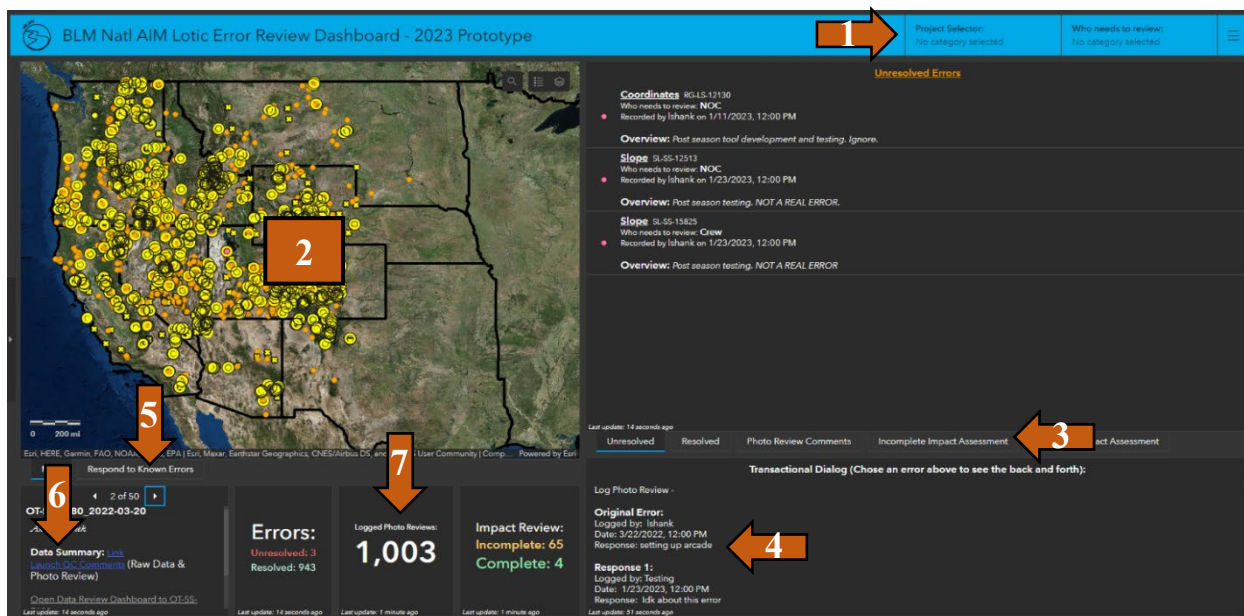

Figure 4. Screenshot of Error Review Dashboard
- Prior to reviewing data from the crew's first trip, watch the QC webinar which covers detailed instructions on how to use the Error Review Dashboard. Only general instructions are provided below. The error review dashboard has the following key components (Figure 4):
- B. Use the blue bar at the top (Figure 4, Label #1) to filter points for a given project and your specific role (e.g., crew or project lead). Note for the role filters you can select multiple options from the dropdown. Selected options have a blue tab to the left.
- C. Review the “Unresolved Errors” and “Transactional Dialog” section on the right side of your screen (Figure 4, Label 4 & 5). This list will be filtered based off your choices in B above and will be sorted so that the oldest recorded errors are on the top of the list.
- b. The “Transactional Dialog” box (Figure 4, Label #5) displays what has already been looked into and what information is still needed to resolve the error. This should be reviewed before responding to errors in case there are additional details, questions, or resolutions logged.
- D. To respond to the error, while it is selected and blue in the Unresolved Errors section, click the “Respond to Known Error” tab in the center of the page (Figure 4, Label #6). This will open an embedded Survey form and will prepopulate it based off the prior individual’s responses.
- E. From the list in the “Unresolved Errors” section (Figure 4, Label #4), select the next error on the list and repeat through steps C-D until everything has been responded to.